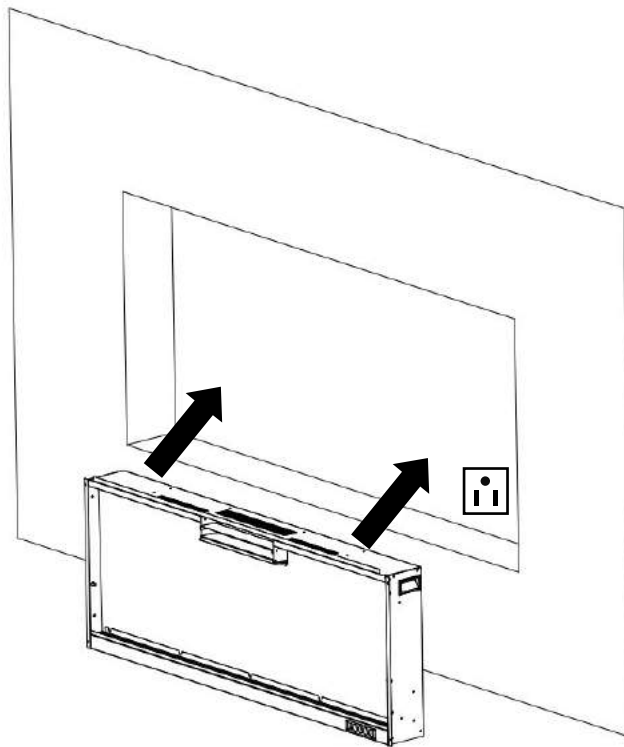
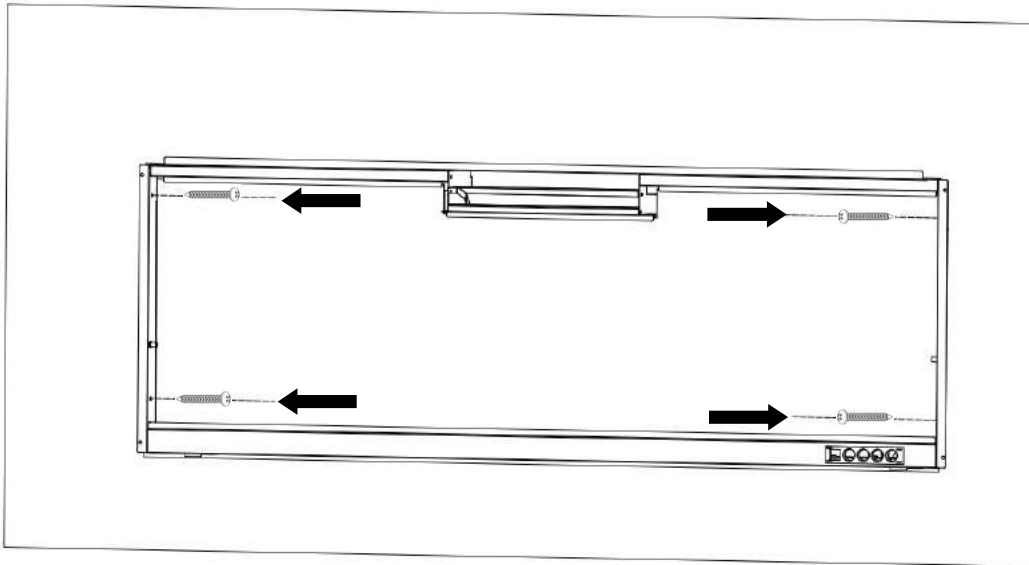

Fig. 2-3
Fig. 2-4
- E. Have two adult people to lift up the fireplace and insert it into the rough-in frame and then secure it by installing 4 wood screws (B) through the holes (Fig. 2-3, Fig 2-4).